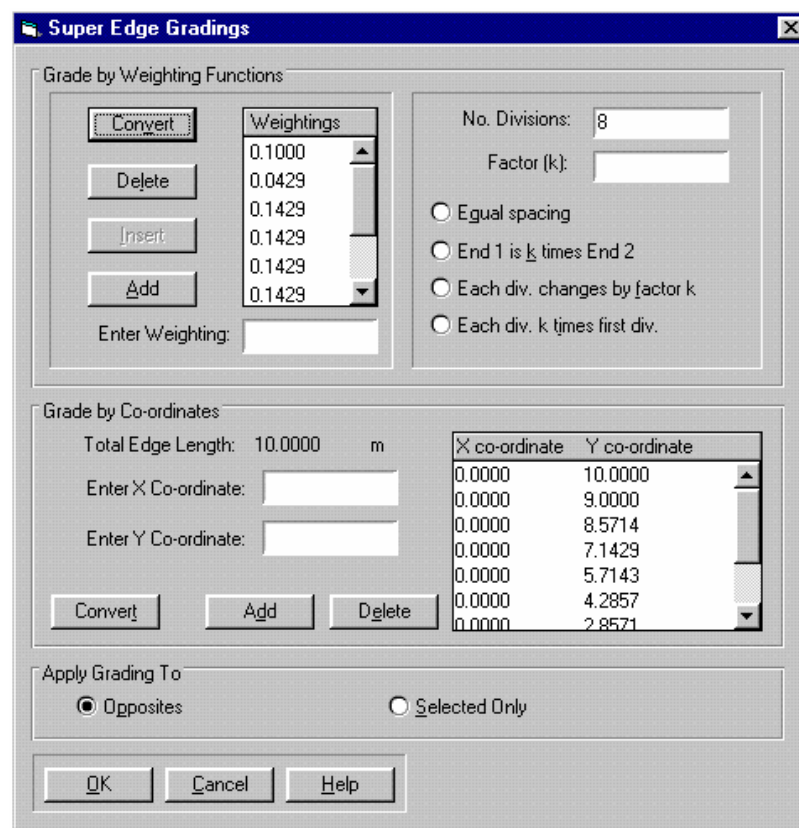

Figure 5-10: Defining Super Edge Gradings
- Step 9** Type '7' in the Number of Divisions text box and click on Equal Spacing. To add an extra grading at 9m enter the X and Y co-ordinate as in Figure 5-10 and click Add. This will show the co-ordinate in the list box. Click Convert and then OK to assign these grading to the selected edge.